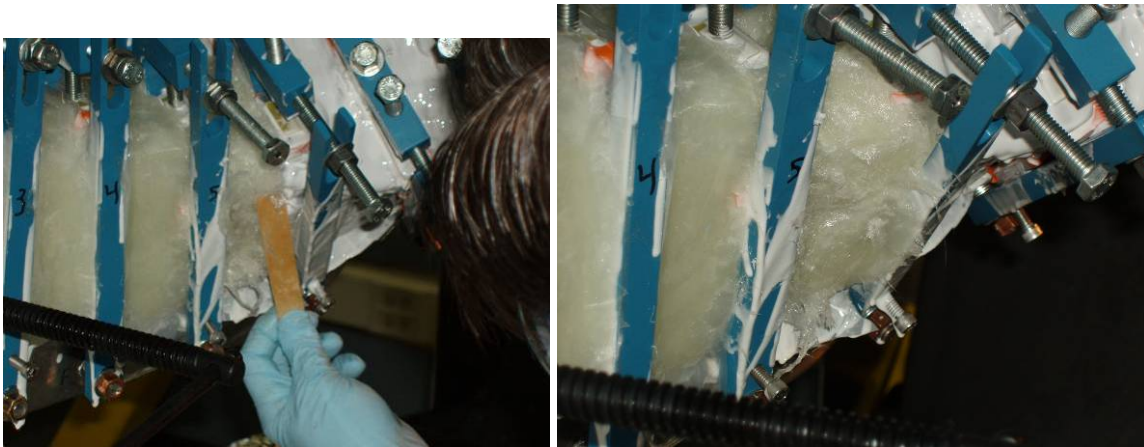

Figure 55-Application Epoxy Glass Shell
- 6.49.22 Begin applying the “Cotton Candy” over all areas of the exposed silicone bag mold between side bars to a thickness of at least ¼ inch. Build up the areas around the sprues to provide additional support. [Figure 55-Application Epoxy Glass Shell]